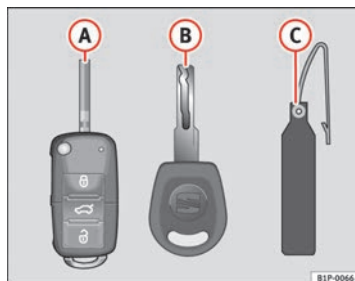

Fig. 45 Set of keys
- a remote control key ⇒ Fig. 45 **A**